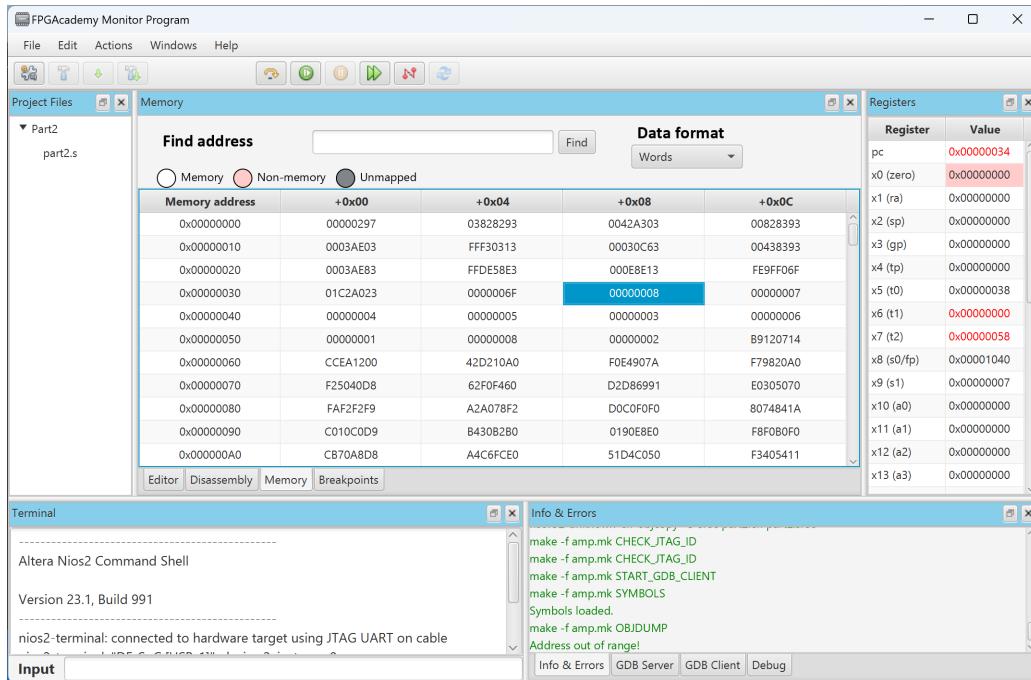

Figure 23: Displaying the result in the memory tab.
4. Execute the program. When the code is running, you will not be able to see any changes (such as the contents of registers or memory locations) in the display for the Monitor Program, because it does not communicate with the Nios V processor while code is being executed. But, if you pause the program then the Monitor Program window will be updated. Pause the program and observe that the processor stops within the endless loop **stop: j stop**. Note that the largest number found in the sample list is 8 as indicated by the contents of register *t3*. This result is also stored in memory at the label *result*. The address of the label *result* for this program in the Monitor Program is 0x00000038. Use the Monitor Program's **Memory** tab, as illustrated in Figure 23, to verify that the resulting value 8 is stored in the correct location.